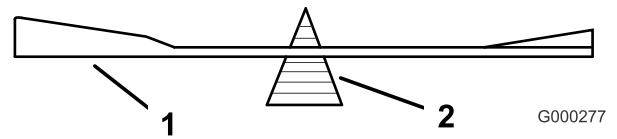

Figure 96
2. Check the balance of the blade by putting it on a blade balancer (Figure 96). If the blade stays in a horizontal position, the blade is balanced and can be used. If the blade is not balanced, file some metal off the end of